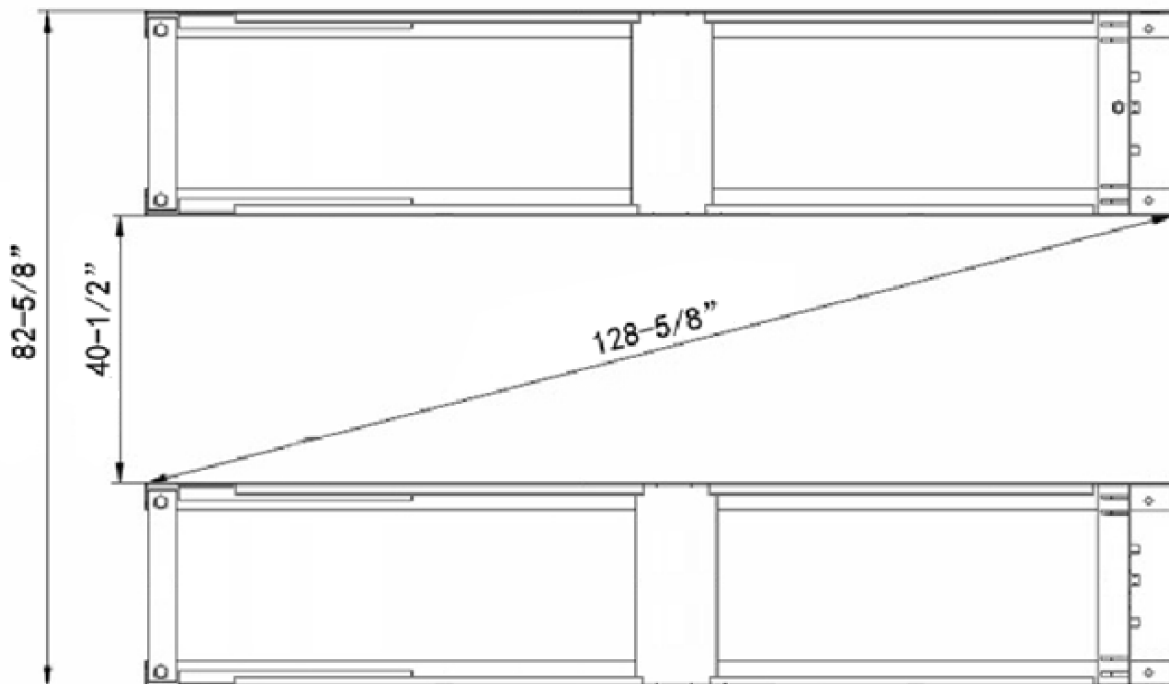

Fig. 3
- 1.1 Installation dimension for DX-12A (See Fig. 3).